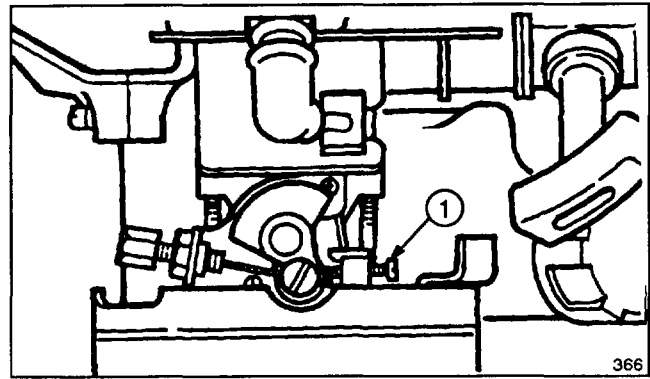

Figure 12
ADJUSTING CARBURETOR (Fig. 12)
1. ADJUSTING IDLE SPEED—Start the engine and let it warm up for approximately 3–5 minutes. Do not adjust carburetor when engine is cold. Be sure to perform carburetor adjustments while at a temperature that will be the average outdoor temperature at which the trimmer will be used. Allow the engine to idle. If necessary, readjust the idle speed to keep the engine from stalling (2600–3200 RPM). Turning idle speed screw clockwise increases idle speed, counterclockwise decreases idle speed (Fig. 12).